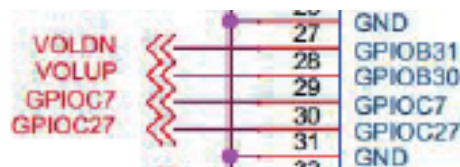

Fig 2
B. VOLUP has the name GPIOB30 in the CPU page of the schematic, as shown in Fig2.